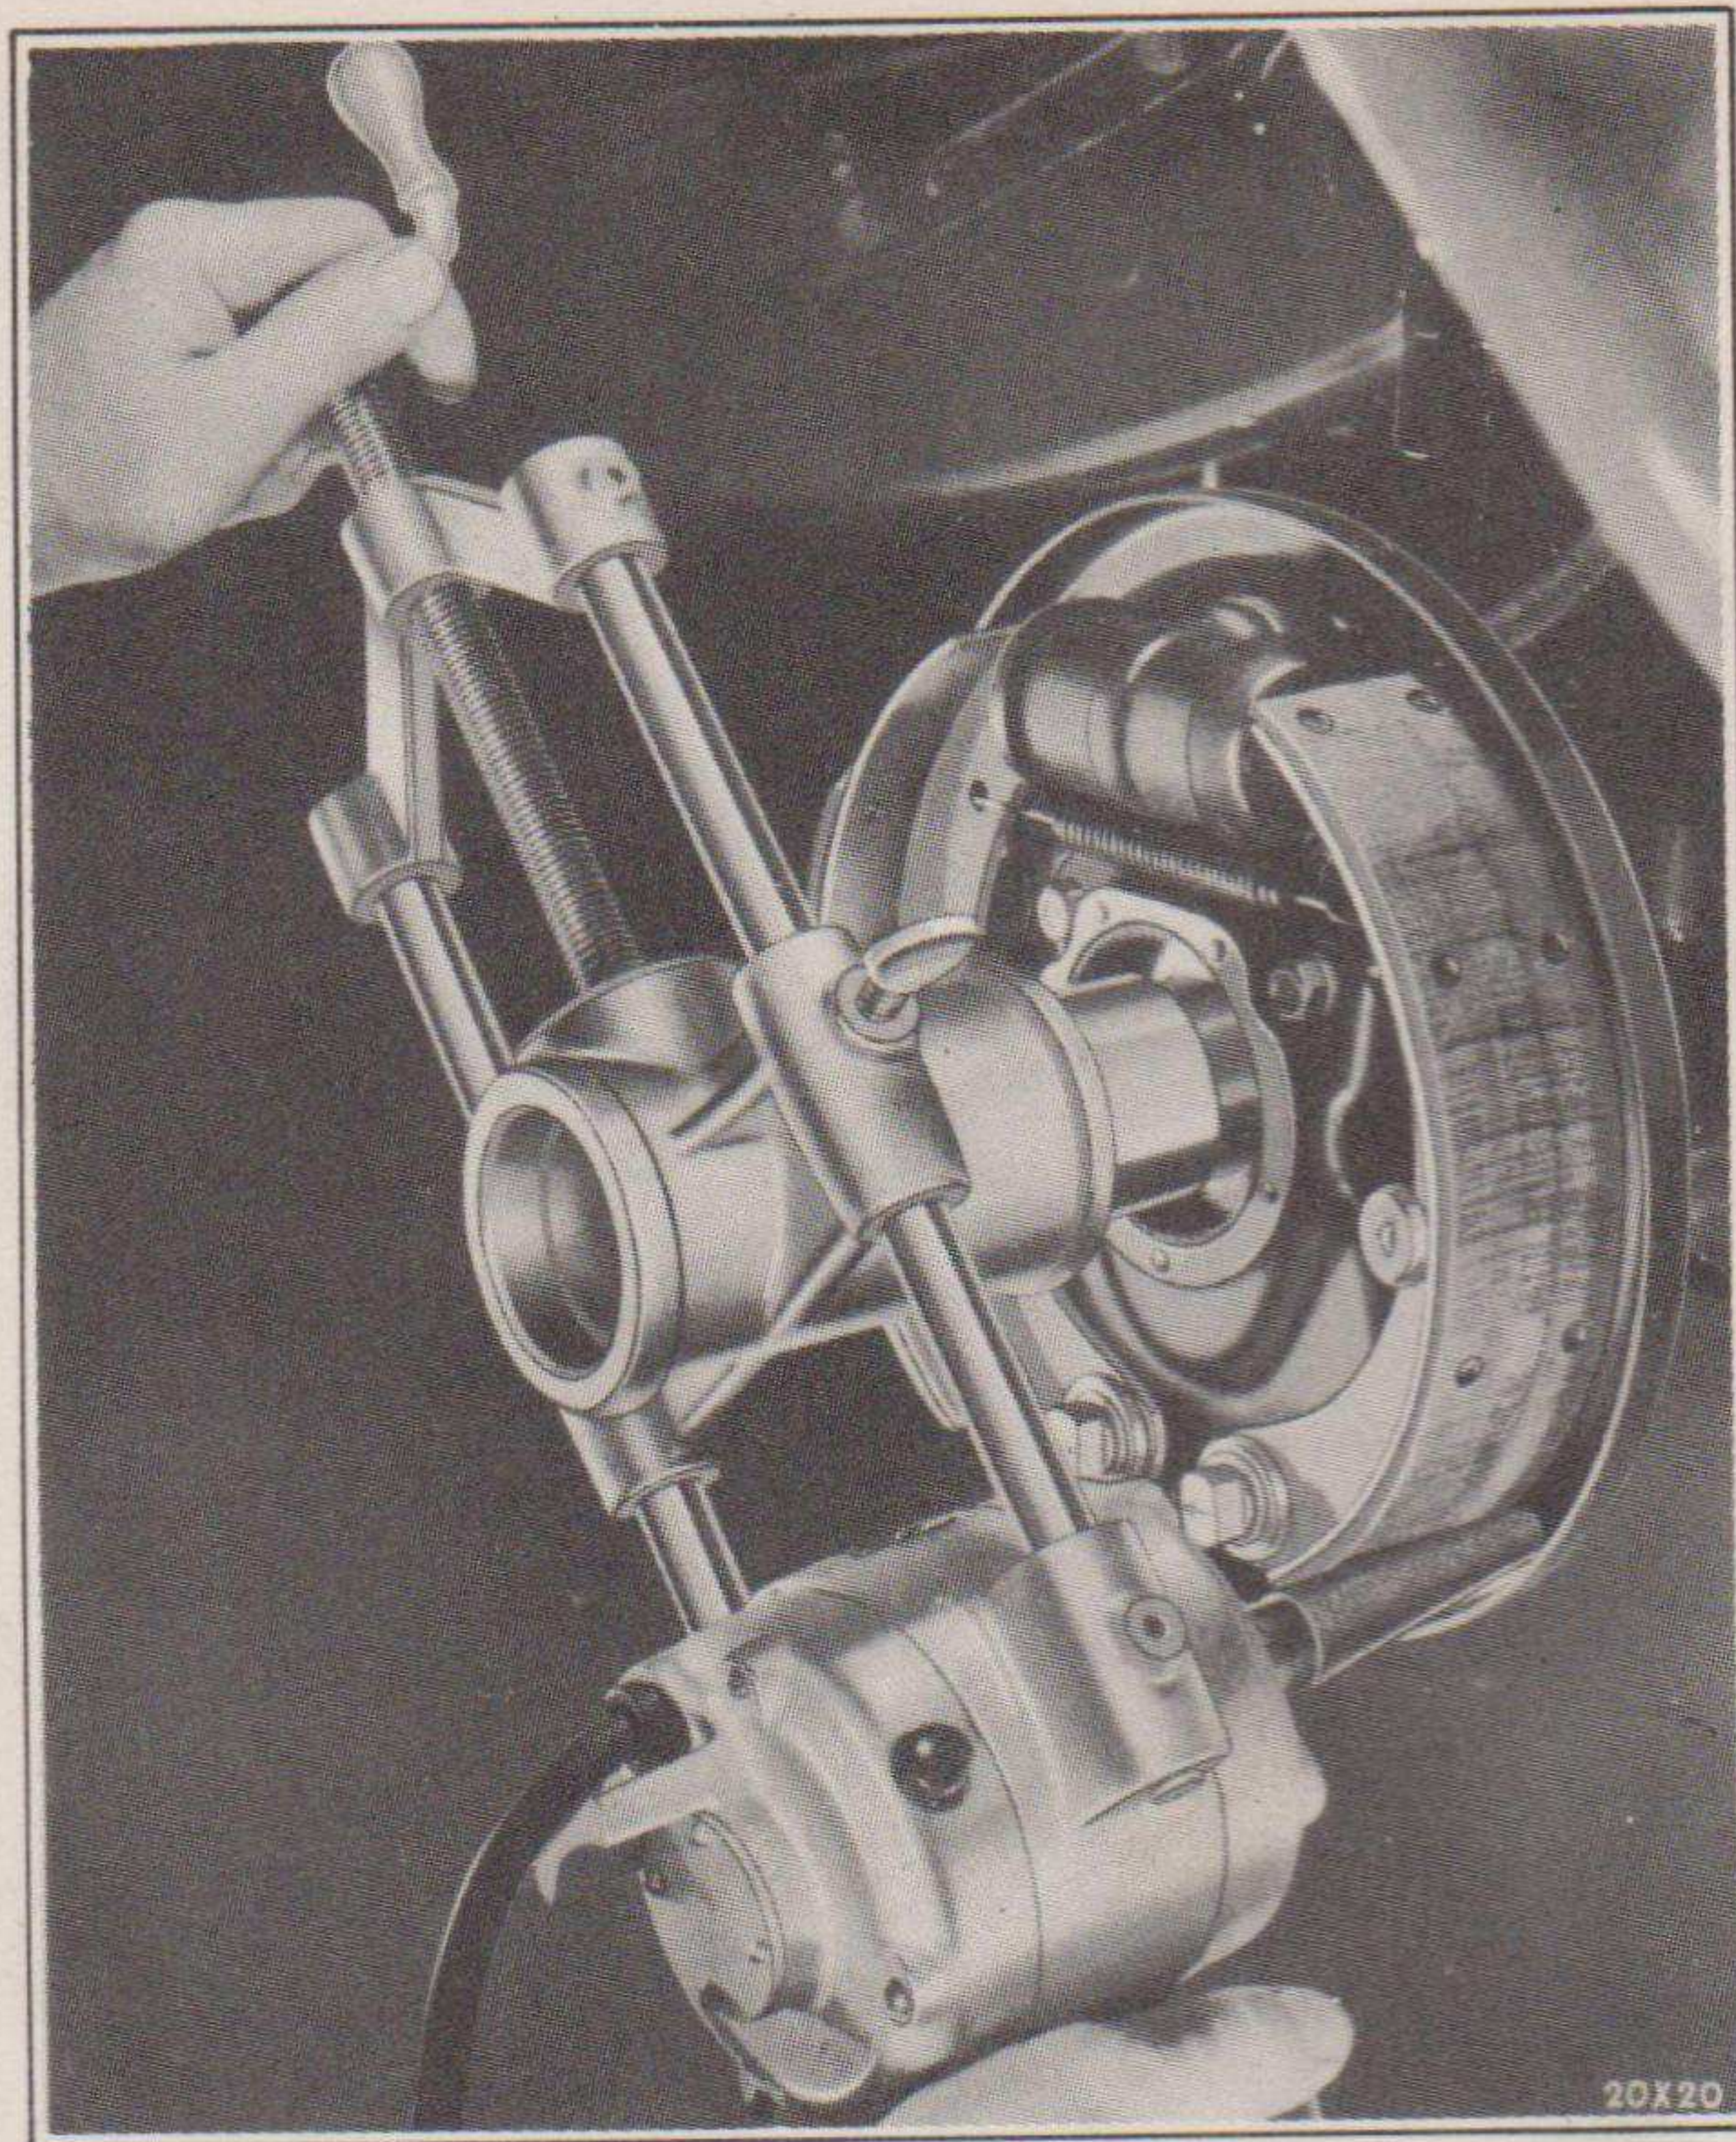

Fig. 69—Grinding Brake Shoe Facing (Tool MT-44)
- (e) Chamfer the end of the lining back about  $\frac{3}{4}$ " from the top and bottom, and remove high spots or burrs around rivet holes with a grinding tool (Fig. 69) or a fine file. *Do not use emery paper.*
Rough or high spots can be quickly and easily removed by using a brake lining re-facing tool as illustrated in Fig. 69. The lining should be faced to full drum diameter.